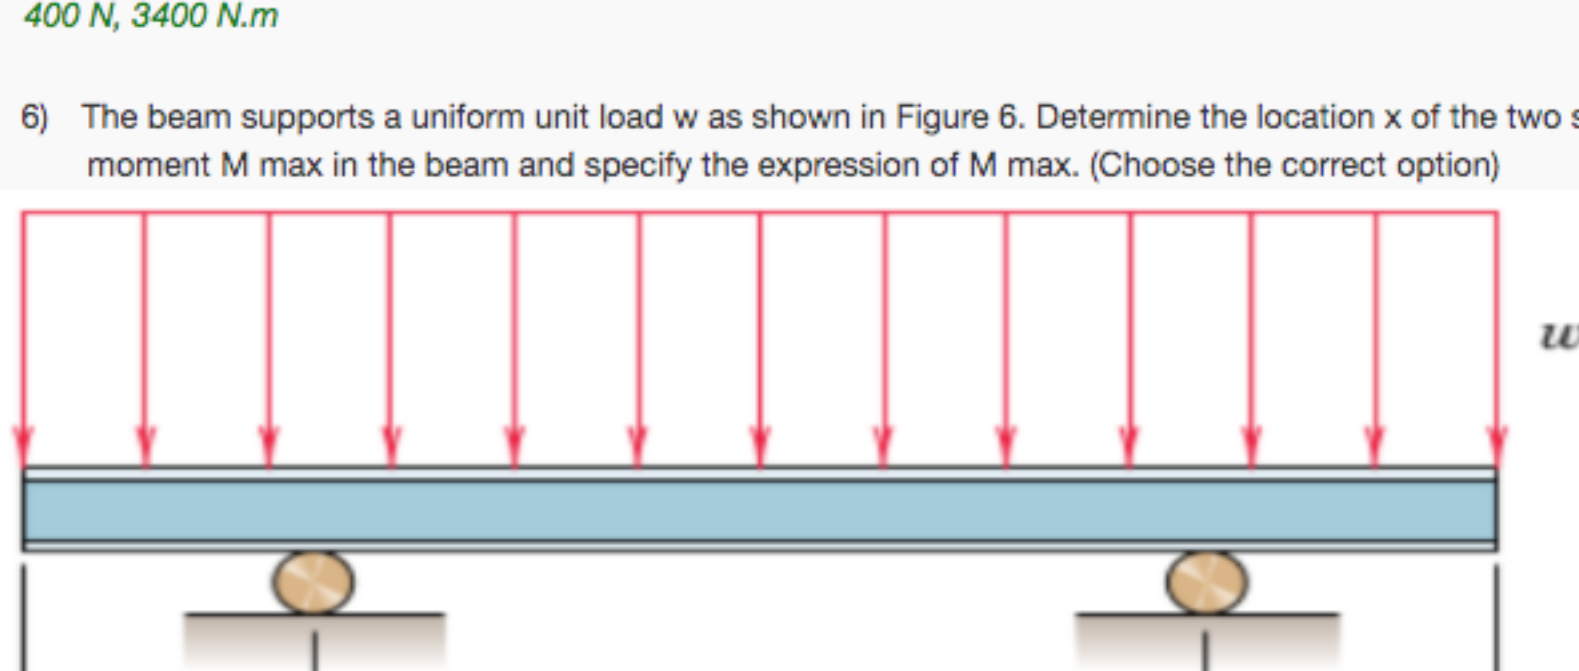

Figure 6: Figure for question No.6
6) The beam supports a uniform unit load w as shown in Figure 6. Determine the location x of the two supports so as to minimize the maximum bending moment M_{max} in the beam and specify the expression of M_{max} . (Choose the correct option) **1 point**